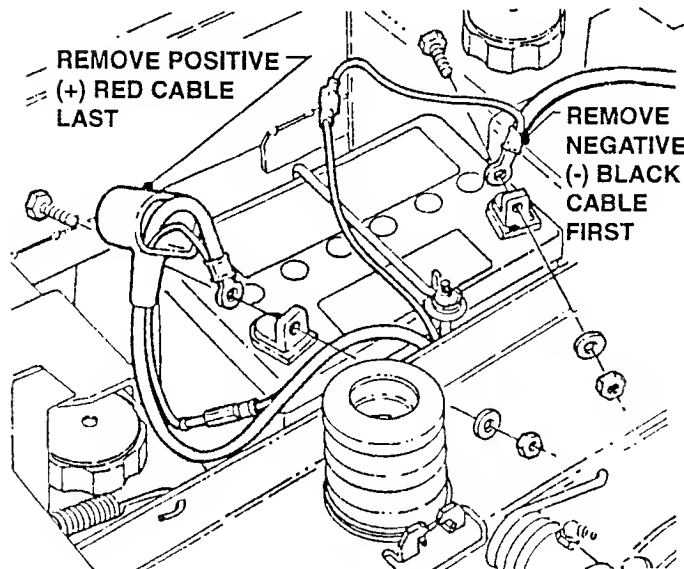

FIGURE 3.4
3. Observe and note Cable positions on Battery. See Figure 3.4.
3. Reinstall Battery Retainer and Positive Terminal Cover. Refer to Figure 3.4.